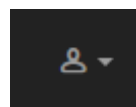

Figure 9. Partner Portal (Profile icon)
3. Hover the mouse cursor over the Profile icon in the upper right-hand corner of the web page (Figure 9 \(page 42\)). Click the **Account** option.